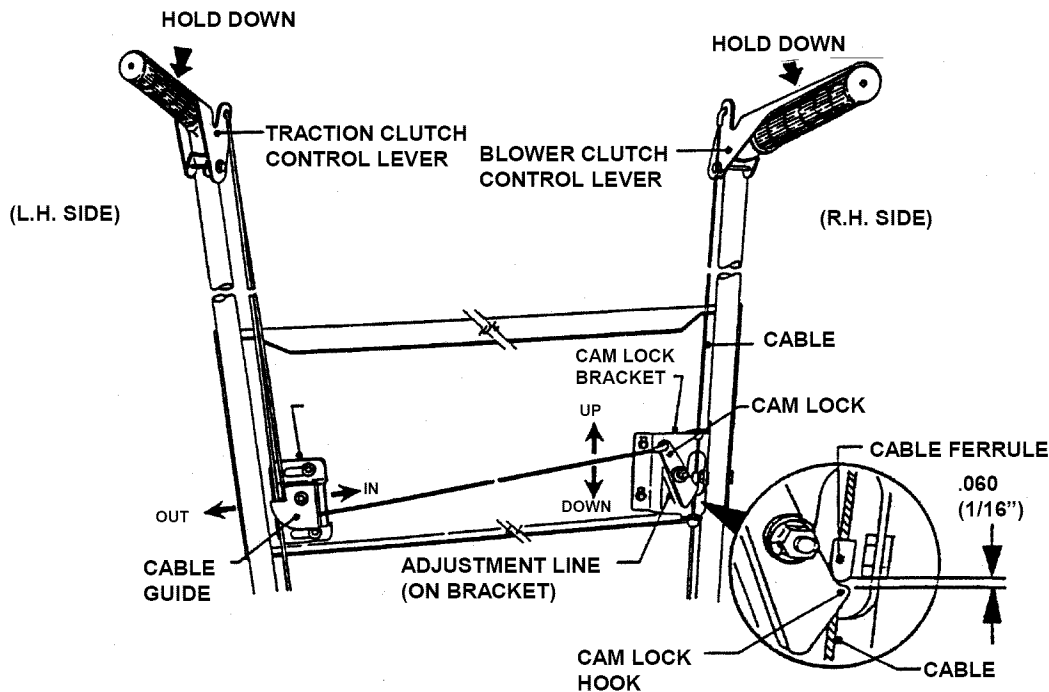

FIGURE 4.12
1. Hold the wheel drive control lever down against the handle. See Figure 4.12.
5. Check the position of the cable ferrule in relation to the cam lock. The ferrule must be located $1/16"$ (.060) above the hook of the cam lock. To adjust, loosen the three nuts that secure the cam lock bracket. Slide bracket up or down until correct measurement is achieved. Retighten nuts securely. See Figure 4.12.